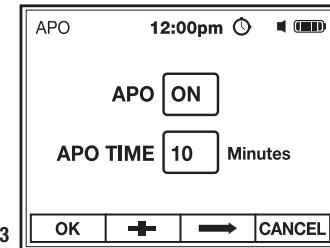

Fig. 23
2. Use the **F3** \Rightarrow soft key to select APO or APO TIME (highlighted in red), (Fig. 23).
3. Use the **F2** + soft key to turn APO ON or OFF or adjust APO timer (Max. 30 min), (Fig. 23).
4. Press the **F1 OK** soft key to save setting and return to Meter Settings (Fig. 23).